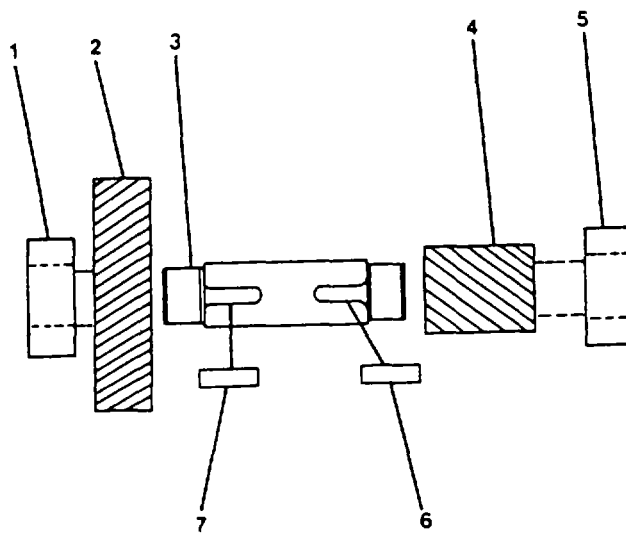

FIGURE 4-34. Intermediate Speed Gear Assembly.
- (1) Remove winch shaft (1) and low speed (L.S.) bearings (2, 3) as a unit from low speed shaft (4).
- (2) Separate L.S. bearings (2, 3) from winch shaft (1).
- (3) Separate L.S. bearing (2) from L.S. bearing (3).
- (4) Remove winch shaft (9) and L.S. bearings (7, 8) as a unit from L.S. shaft (4).
- (5) Separate L.S. bearings (7,8) from winch shaft (9).
- (6) Separate L.S. bearing (8) from L.S. bearing (7).
- (7) Remove snap ring (6).
- (8) Remove low speed gear (5).
- (9) Retain machine key (10).
- b. Intermediate Speed Gear Assembly. (FIGURE 4-34)
- (1) Install machine keys (9, 10).
- (2) Install high speed bevel gear (5) and spacer (6) on shaft (4).
- (3) Install I.S. bearing assembly (7) and I.S. bearing cartridge (8) on shaft.
- (4) Install I.S. pinion (3) on shaft.
- (5) Install spacer (2) and I.S. bearing (1) on shaft.
c. Intermediate Speed Gear Assembly. (FIGURE 4-34)